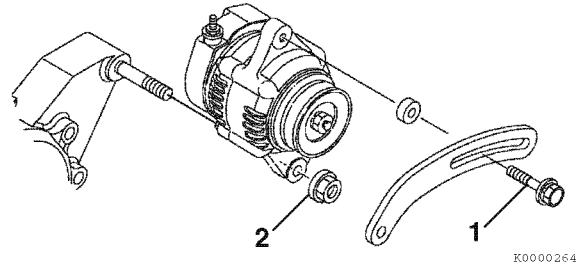

**Figure 11-18**
11. Reassemble the pulley (**Figure 11-18, (2)**) and nut (**Figure 11-18, (1)**) to the shaft of the rotor assembly. Tighten the nut.